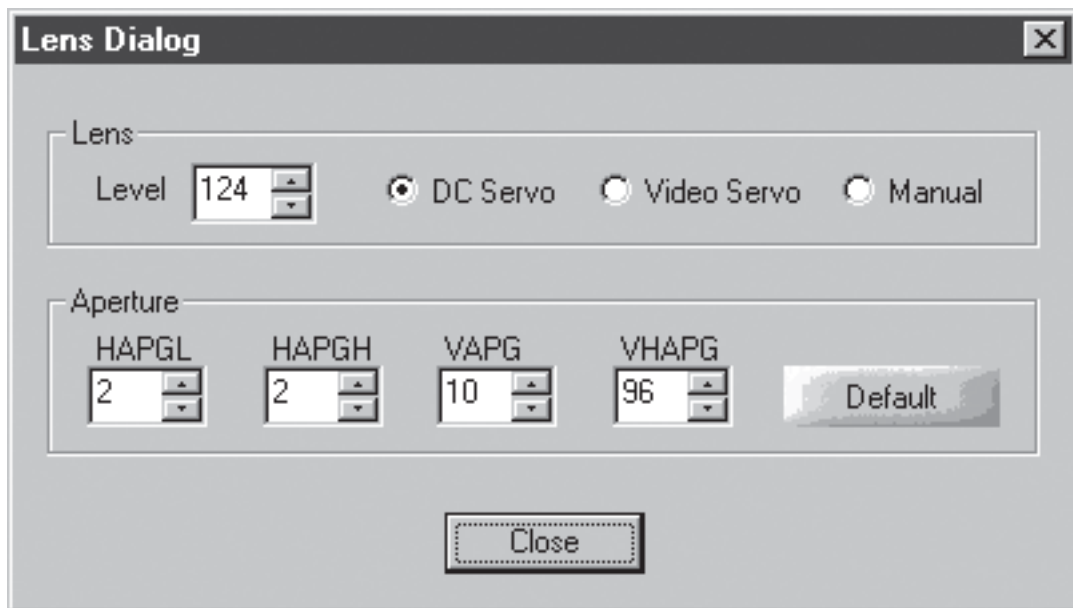

Figure 11. Lens Dialog Screen
3.2 Lens/Aperture (Lens Dialog) Window (figure 11)